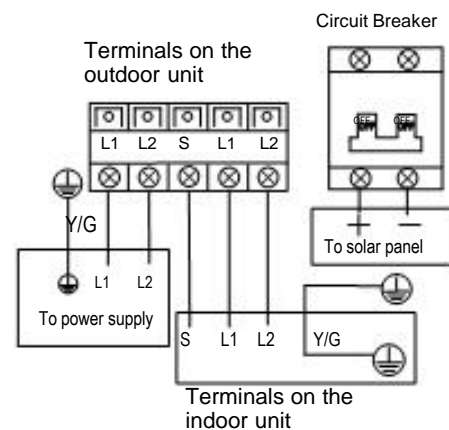

Fig.27
5. Connecting cable between indoor unit and outdoor unit shall be approved neoprene sheathed flexible cord, type designation H07RN-F or heavier cord. Ensure the color of wires of outdoor unit and the terminal Nos. are the same to the indoors respectively, Fig.27.
2. Connect the cables to the terminals as identified with their respective locations, see figure 27.